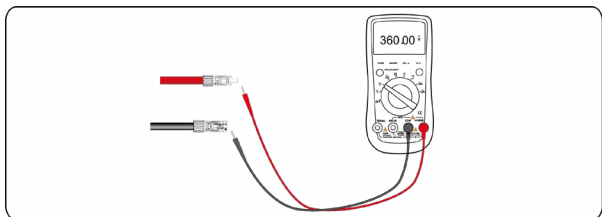

Figure 5.14 Checking the voltage of every route Strings
Step 5 Measure the voltage of every route Strings using a multimeter. Ensure that the polarities of the DC input power cables are correct, as shown in **Figure 5.14**.